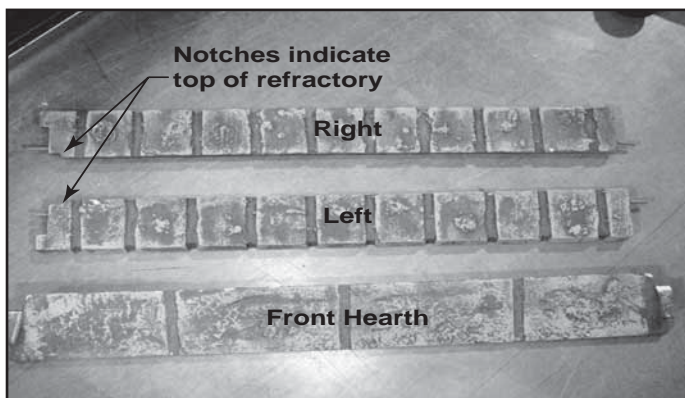

Figure 15.17 Refractory Pieces
Open Refractory Package (Figure 15.17)
- Locate right side refractory panel. See Figure 15.17.